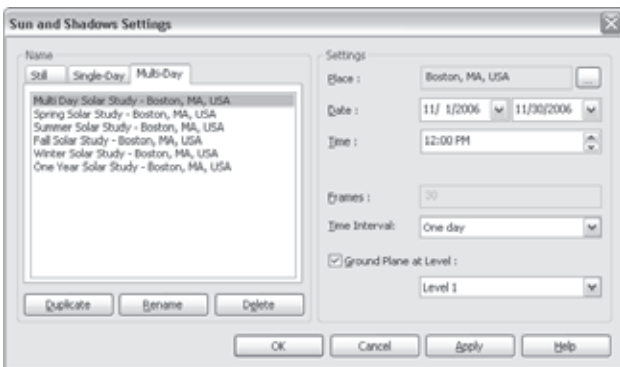

Figure 8.28
2. Choose the Multi-Day tab, shown in Figure 8.28.